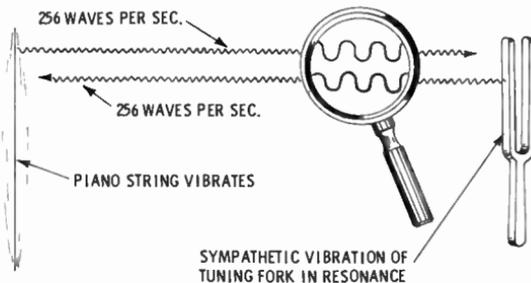

Fig. 12. Sympathetic vibration of tuning fork with vibrating piano string when tuned to the same pitch.
*Resonance*—When the note C is struck on the piano (Fig. 12), the sound waves vibrate 256 times per second and either a C tuning fork or another wire tuned to C and in the immediate vicinity will vibrate 256 times per second also. Thus, the two wires are said to be in resonance.